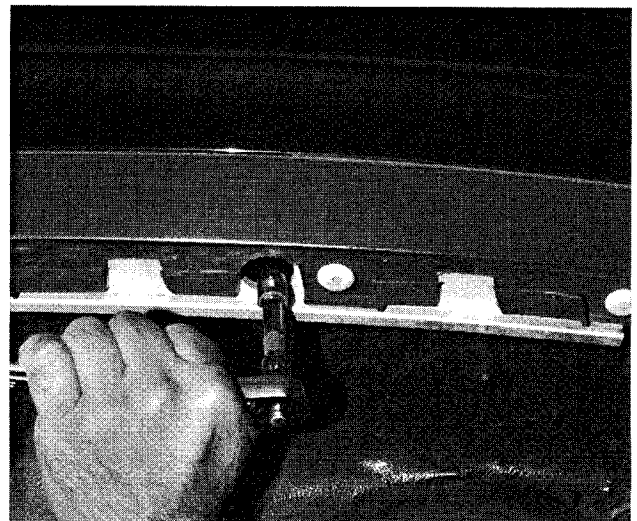

Fig. 12. Insert tool through rear bumper mount bores to remove mounting bolts (right side shown).
4. Remove left and right bumper bracket mounting bolts and remove bumper. See Fig. 12.